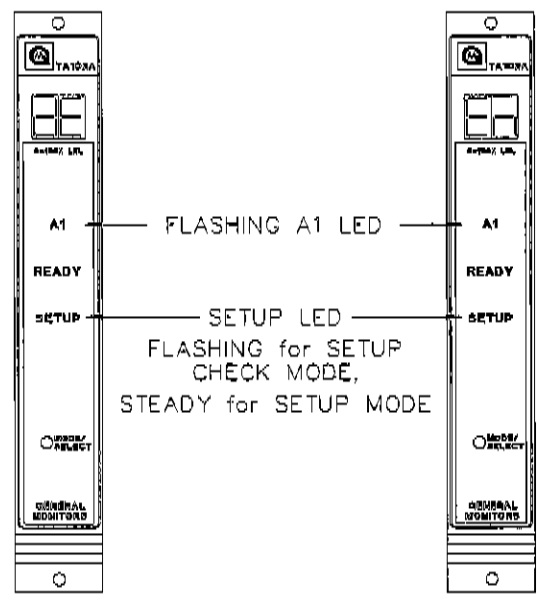

Figure 19
- Next, the **A1** LED on the front panel will be flashing while the Energized/De-energized option is displayed (figure 19).